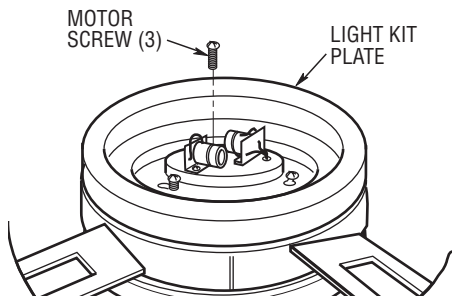

Figure 7
- 5. Remove one of the fan motor/housing assembly screw (retain for later use). Position the light kit plate on the fan motor/housing assembly aligning the keyhole slots over the fan motor screws. Rotate the light kit plate clockwise to engage the screws into the keyhole slots. Reinstall the previous removed screw. Tighten the three screws to secure the light kit plate to the fan motor/housing (Figure 7).